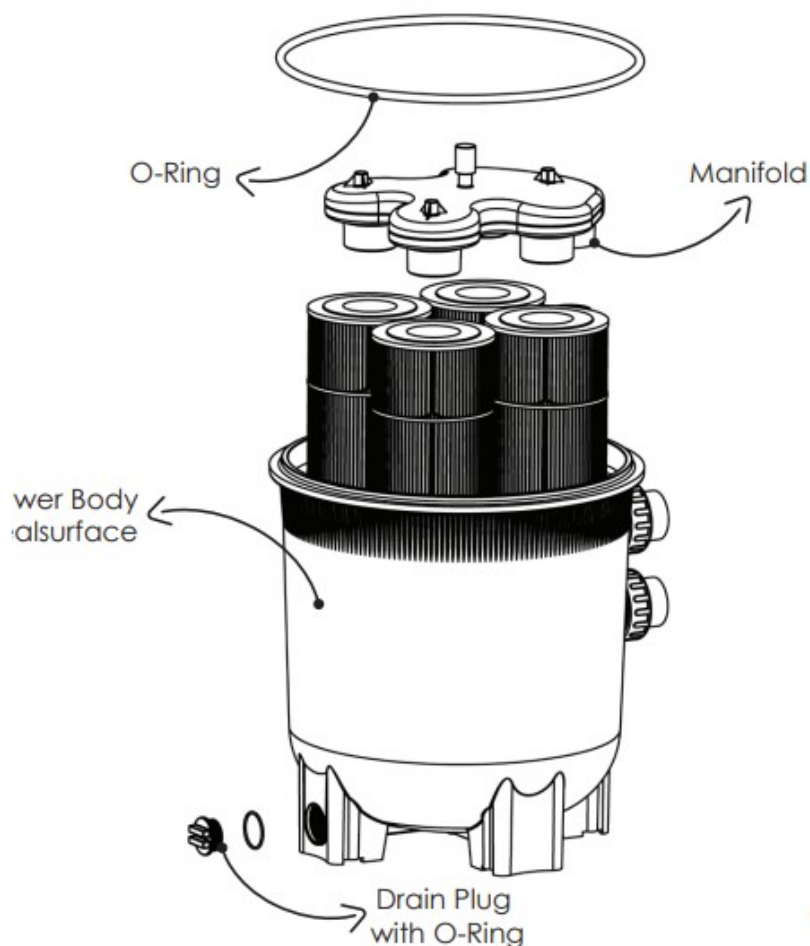

Figure 3
4. Close filter drain. NOTE: Filter Plug requires an O-Ring seal. (See Fig 3)
4. Remove Filter Drain Plug and drain water from the cartridge filter to a level below the height of the Lower Filter Body. (See Fig 3)
1. Remove the top Manifold, which is exposed when the upper Filter Body is removed. (See Fig 3)
2. With a clean cloth, wipe the Lower Filter Body seal surface and clean seal of all dirt and debris. (See Fig 3) Do not use a solvent.